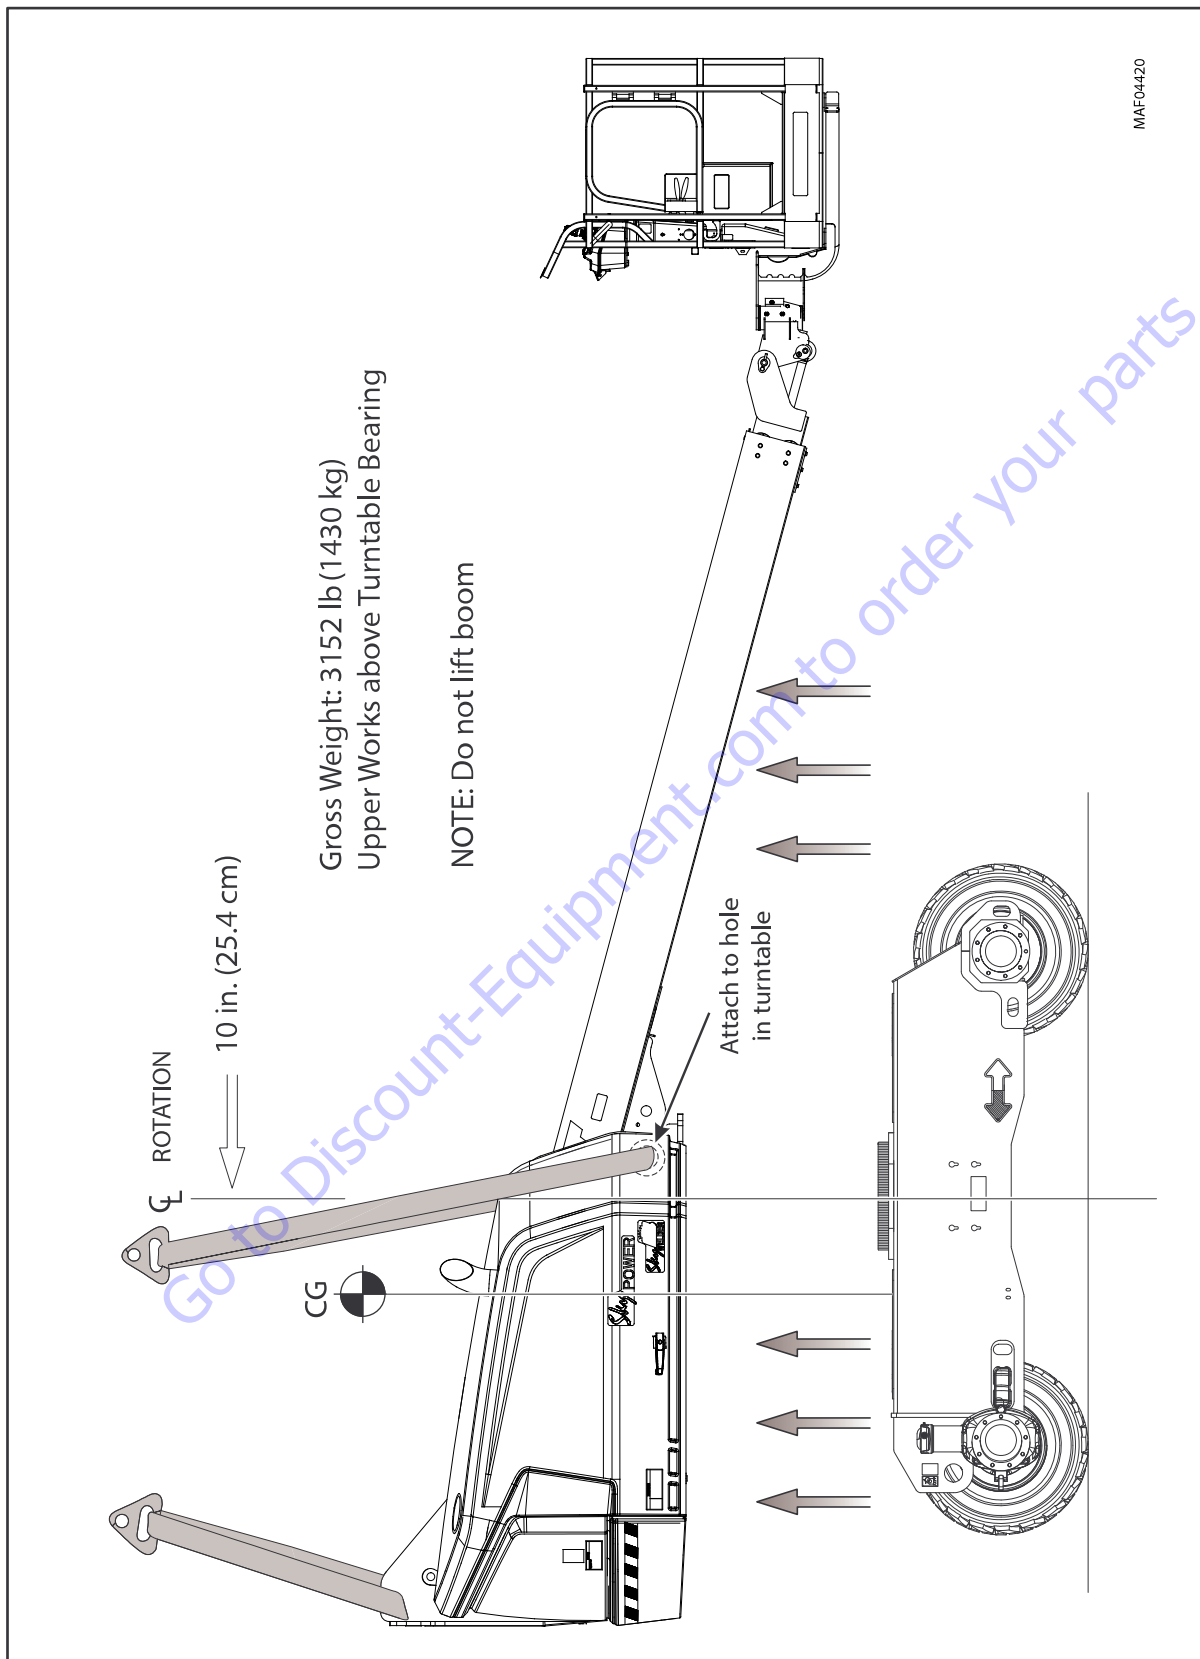
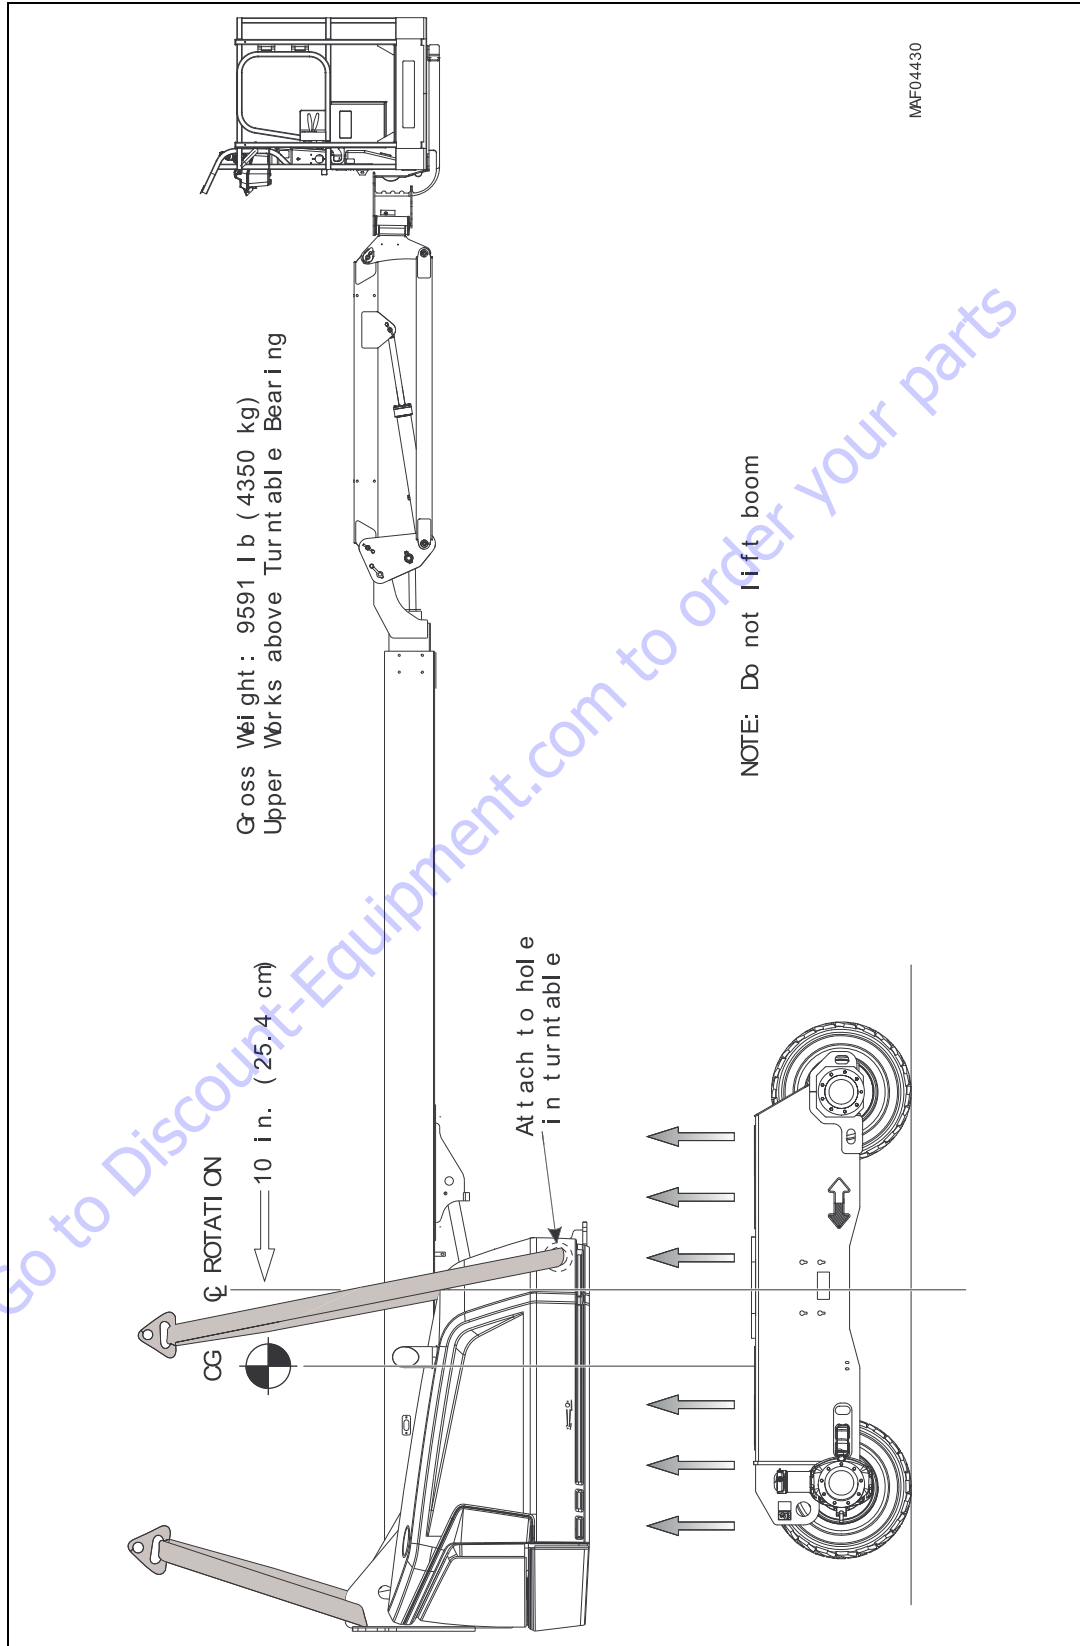

Figure 3-61. Swing Bearing Removal (400S)
Figure 3-62. Swing Bearing Removal (460SJ)
6. Attach suitable overhead lifting equipment to the base of the turntable weldment. See Figure 3-61., Swing Bearing Removal (400S) and Figure 3-62., Swing Bearing Removal (460SJ).